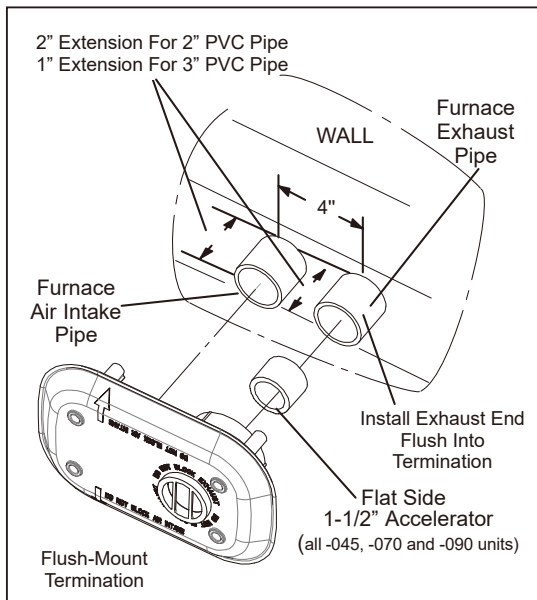
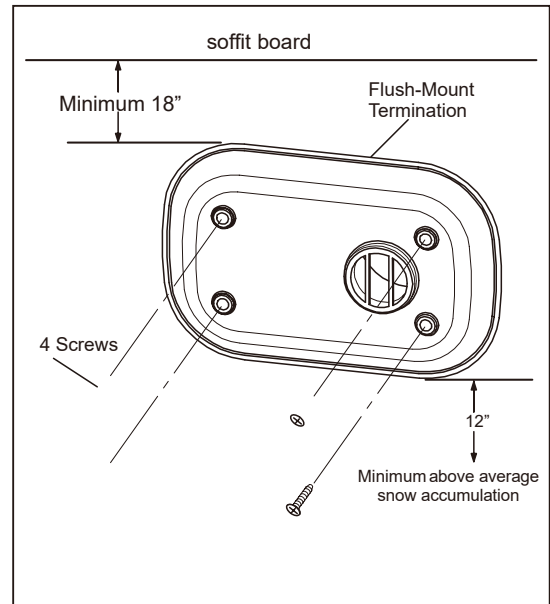
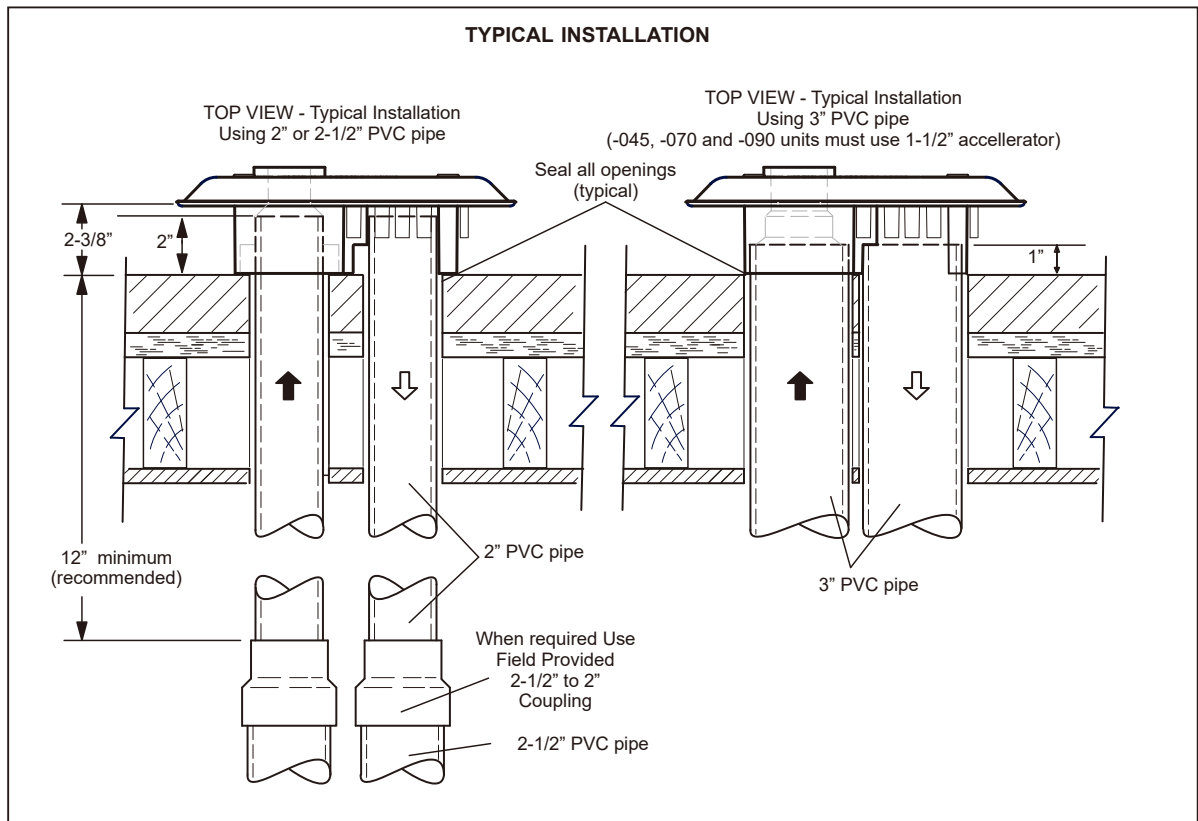

Fig. 7-18
Fig. 7-19
Fig. 7-20
5. When determining pipe length, include the length of exhaust and intake pipes that extend beyond the wall and are flush into the flush mount termination. For 3" pipe add an extra inch to the overall length. For 2" pipe add an extra 2" to the overall length. See Fig.7-18.
6. The 1-1/2" accelerator must be used for all unit installations. Fully insert and glue the accelerator (flat side first) into the 2" exhaust opening. See Fig.7-18.
7. Install the intake pipe and exhaust pipe through the holes drilled in step 4 and into the flush mount termination. Exhaust pipe may be glued but it is not necessary. See Fig.7-18. Seal all openings as indicated in Fig.7-20.
8. Secure the flush-mount termination to the wall using the provided screws and anchors or field-provided screws if applicable. See Fig.7-19. Termination should be flush against the wall as shown in Fig.7-20.